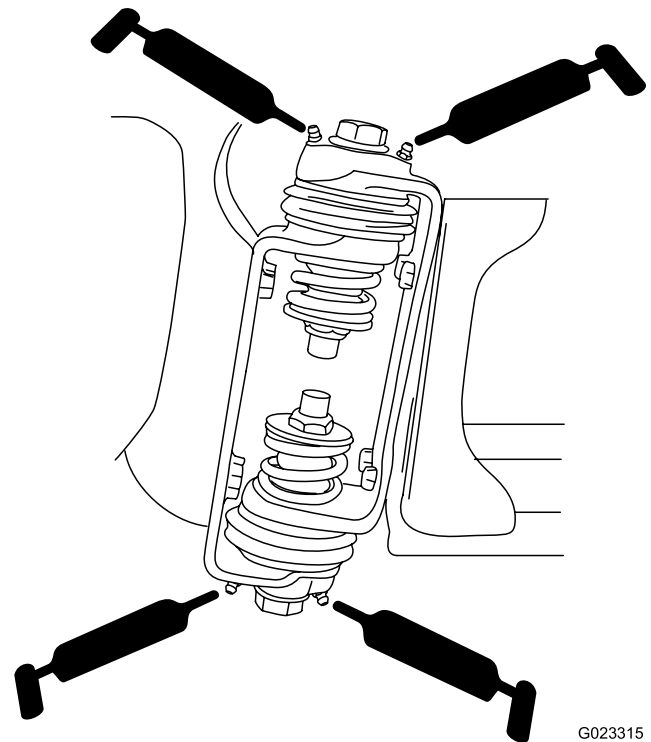

Figure 17
2. Pump grease into the bearing or bushing at each fitting Figure 17.